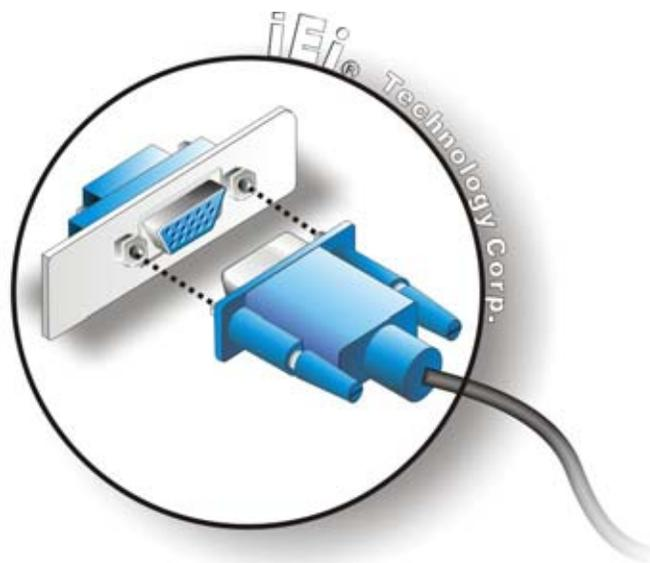

Figure 4-17: VGA Connector
- Step 3:** **Insert the VGA connector.** Once the connectors are properly aligned with the insert the male connector from the VGA screen into the female connector on the PCISA-945GSE. See Figure 4-17.